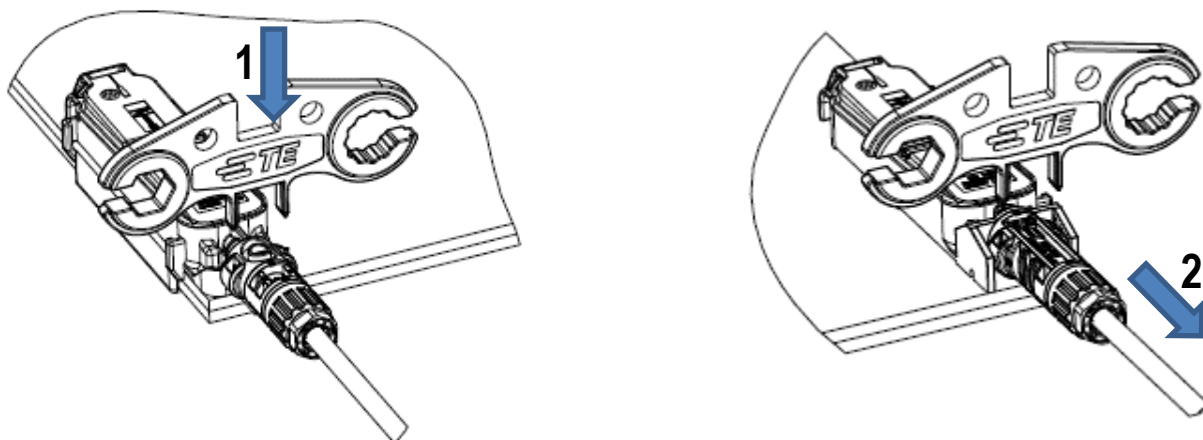

Figure 11
1. The locking mechanism is opened by depressing the latches with this tool as shown in Figure 11.